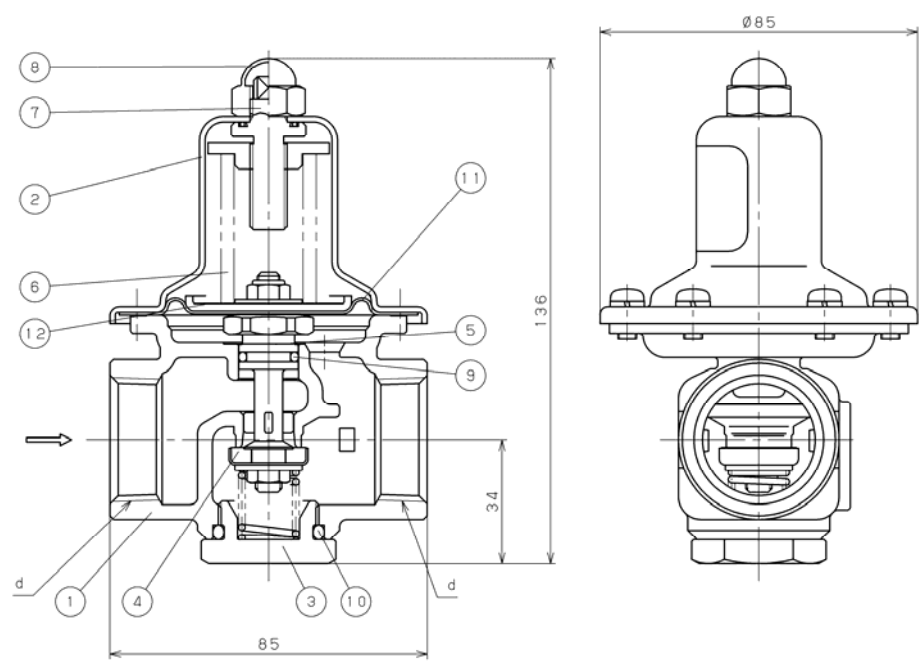

fig.1
3.1 GD-41 Type, GD-41G Type (fig.1 , table 1 , and table 2.Refer)